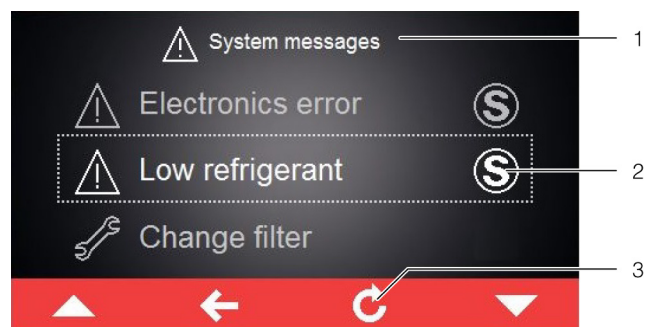

Fig. 24: Screen showing error messages
If an error message applies that cannot be resolved by the operator himself and which is not reset automatically, the "Service" symbol will appear after the error message and in the control bar next to the symbol for system messages (fig. 24, item 2).